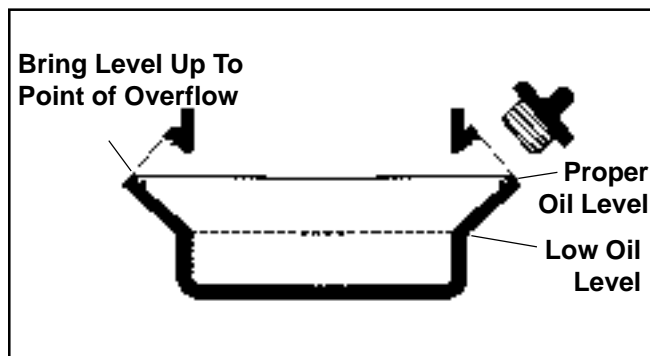

Figure 6-2. Cutaway Showing Proper Oil Level.
4. The oil level should be at the point of overflowing out of the filler neck. See Figure 6-2.